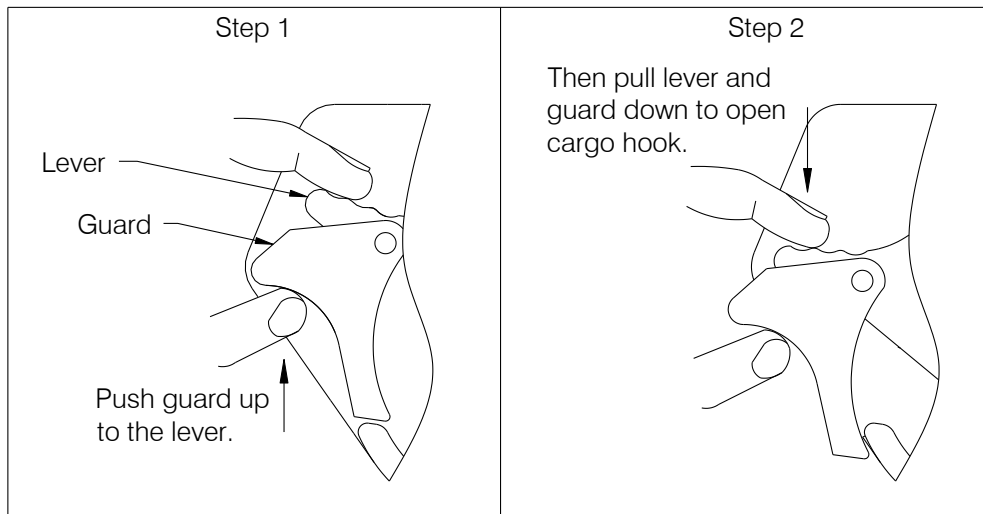

Figure 5.2 Manual Release Lever Operation
4. Operate the Manual Release Lever (see Figure 5.2). The hook must release the Test Stem.